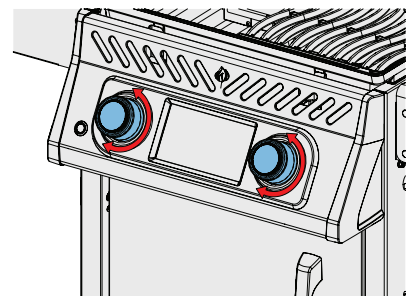

Fig. 3
5. Using the knobs or screen depending on the modes to adjust the burner temperature levels. (Fig. 3)